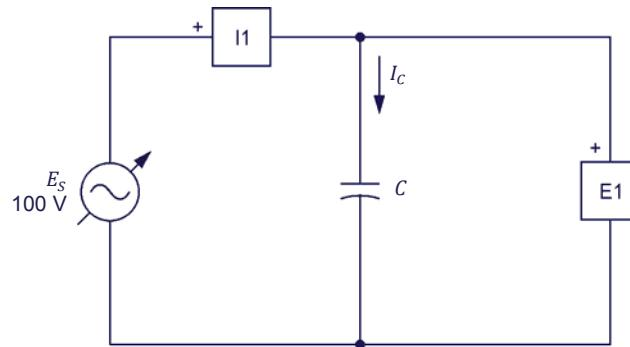

Figure 2-6. AC circuit containing a capacitor.
6. Set up the circuit shown in Figure 2-6.
The value of the capacitance  $C$  to be used in the circuit of Figure 2-6 depends on the frequency of the ac power source, as indicated in Table 2-3.